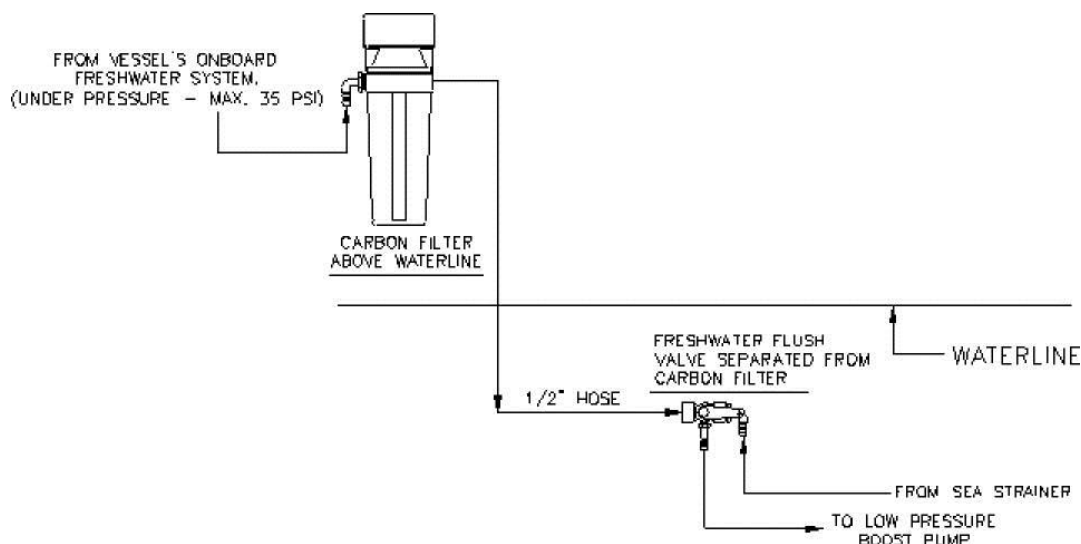

Figure 1.3: Carbon Filter with Freshwater Flush Valve – Isometric Views.
Step 3: Figure 1.3: Connecting the Carbon Filter Outlet to the Separated Freshwater Flush Valve. Connect 1/2" diameter PVC hoses to connect all the feed water components up to the high- pressure pump. Note the boost pump outlet is a 3/8" diameter barb fitting. Use a short section of 3/8" hose and jump to 1/2" diameter using the step size adaptor supplied.